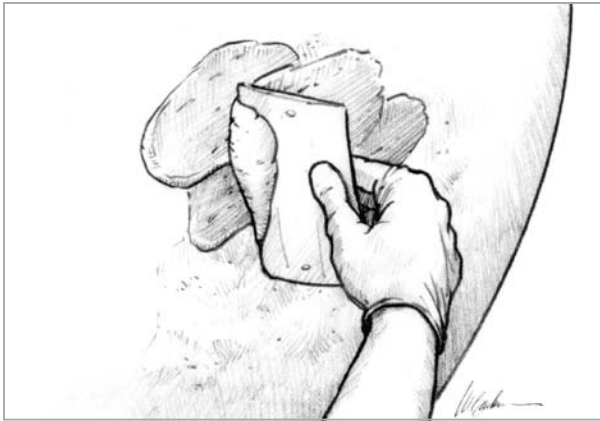

Figure 5 Use a spreader to apply fairing compound, and slightly overfill the area. Shape the mixture to blend with the surrounding contour.
4. Trowel the mixture on with a plastic spreader. Fill the low areas to just above the fair level so the fairing compound can be sanded back down to fair without having to be re-filled. Use the spreader to smooth the compound as close as possible to the desired shape to avoid excessive sanding after the mixture has cured (*Figure 5*). The contour of